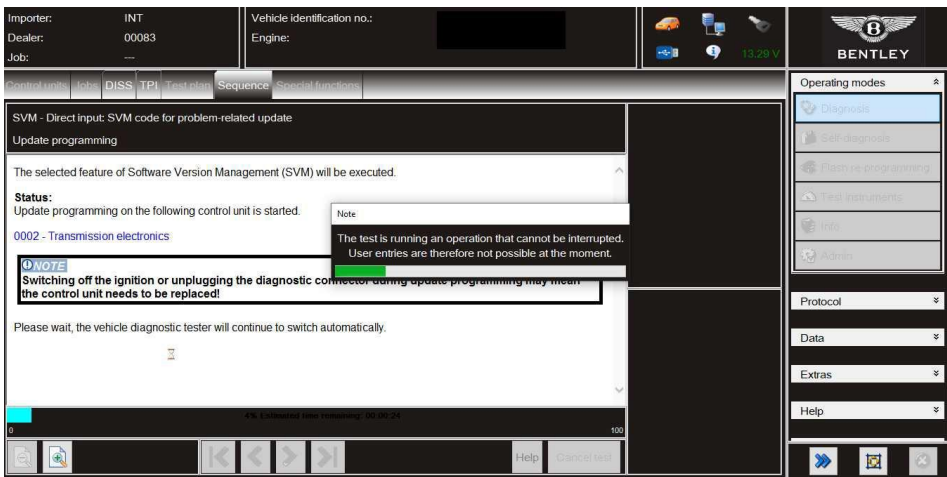

Figure 3
- The software of *02 – Transmission Control Module (Figure 3)* will be updated